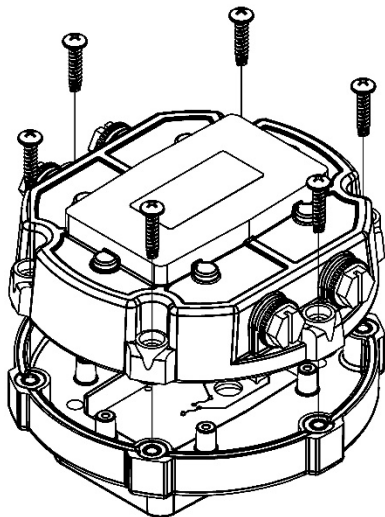

Figure 11
- Remove (6) screws retaining the cover plate to the base and lift the cover plate free of the base (see Figure 11).